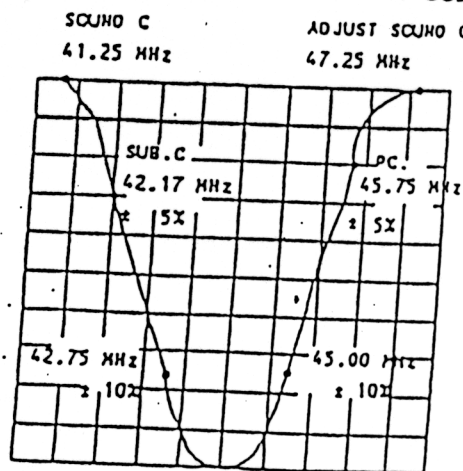

Fig. 4a
4. Adjust T301 to obtain maximum the waveform Fig. 4a
4. Adjust tuner converter coil to obtain the waveform as in Fig. 4a